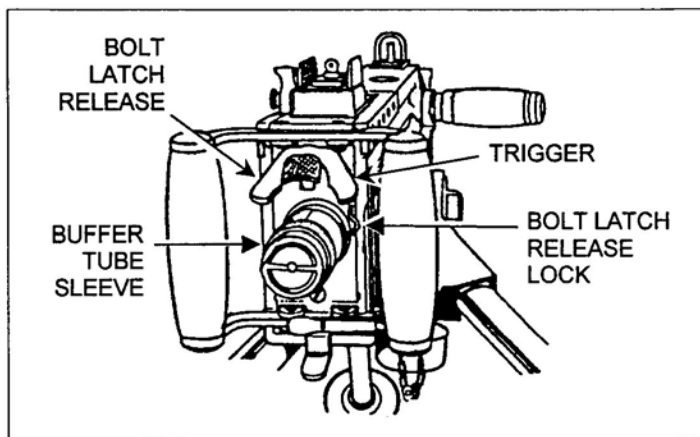

Figure 3. Release the bolt latch.
- (1) Ensure that the bolt is forward and the bolt latch release is unlocked (in the single shot mode) (Figure 3).